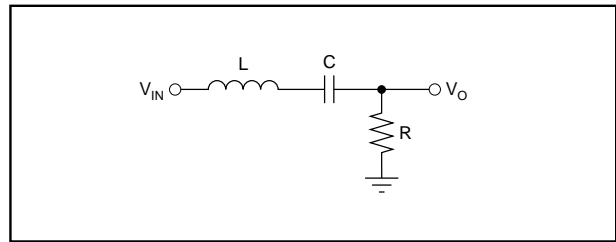
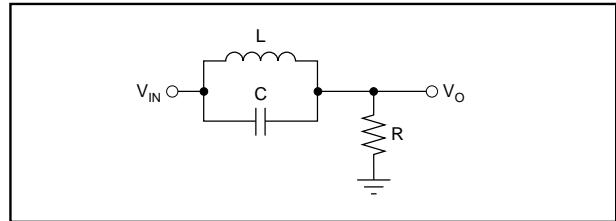

FIGURE 4A.  $n = 2$  Band-Pass Filter Using UAF42 (approximates the response of a series-connected tuned L, C, R circuit).
FIGURE 4B.  $n = 2$  Band-Reject (Notch) Filter Using UAF42 (approximates the response of a parallel-connected tuned L, C, R circuit).
**Tuned Circuit** (resonant or tuned-circuit response). If a two-pole band-pass or band-reject (notch) filter is selected, the program defaults to a tuned circuit response. When band-pass response is selected, the filter design approximates the response of a series-connected LC circuit as shown in Figure 4A. When a two-pole band-reject (notch) response is selected, filter design approximates the response of a parallel-connected LC circuit as shown in Figure 4B.